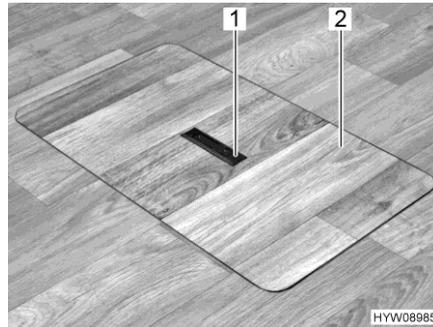
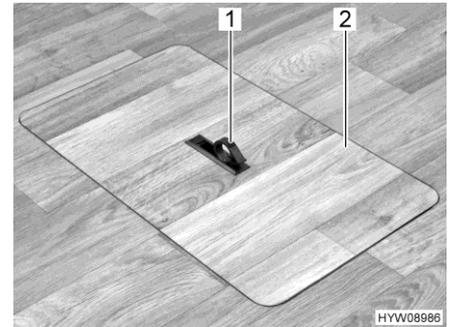

Fig. 59 Floor storage compartment cover (handle recessed)
Fig. 60 Floor storage compartment cover (handle swung out)
- Push one side of the grip plate (Fig. 59,1) downwards. The handle (Fig. 60,1) swivels upwards.
- Remove the cover (Fig. 60,2) upwards.
- Insert the cover (Fig. 60,2) in the frame on the floor.